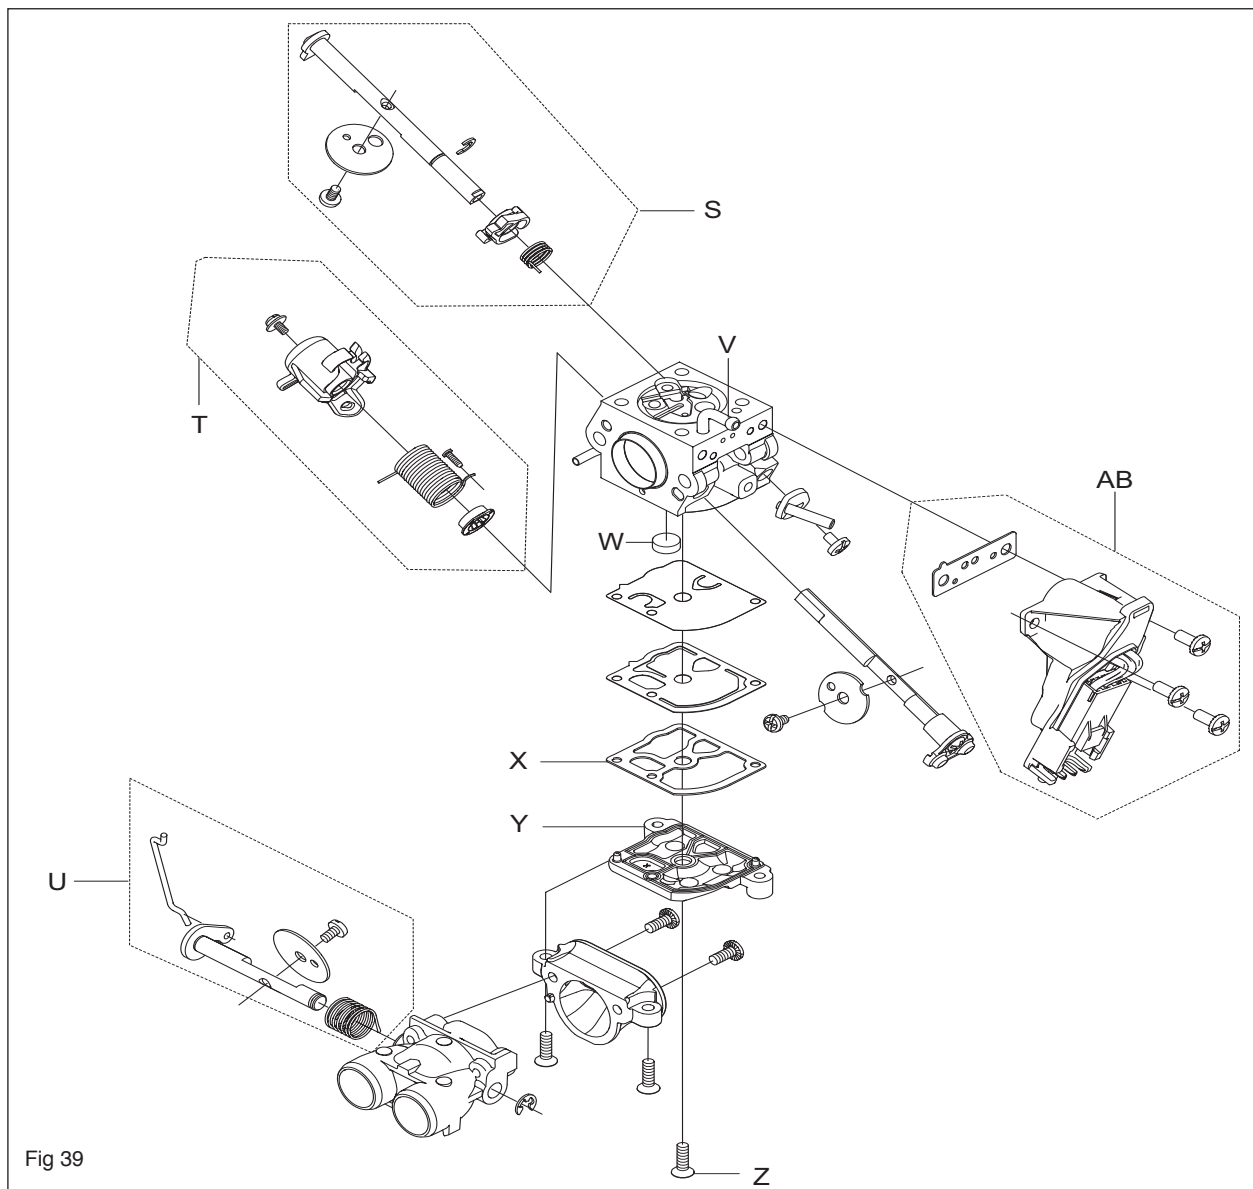

Fig 39
Use a needle or similar device and carefully pull up the fuel screen (W). See figure 39.
If necessary, dismantle throttle valve T and choke valve U and air valve S, and remove the shafts with lever arms and springs (see figure 39).
If necessary, dismantle the AutoTune AB unit. See figure 39.
4. That the fuel screen W is intact and clean. See figure 39.
5. That the inlet manifold V is intact. See figure 39.
2. Fit the fuel screen W using the handle of a small screwdriver. See figure 39.
3. Fit the gasket X in the carburettor as well as the holder Y. Screw in place screw Z as outlined in figure 39.
4. See figure 39 on how to assemble the AutoTune AB unit with gasket.